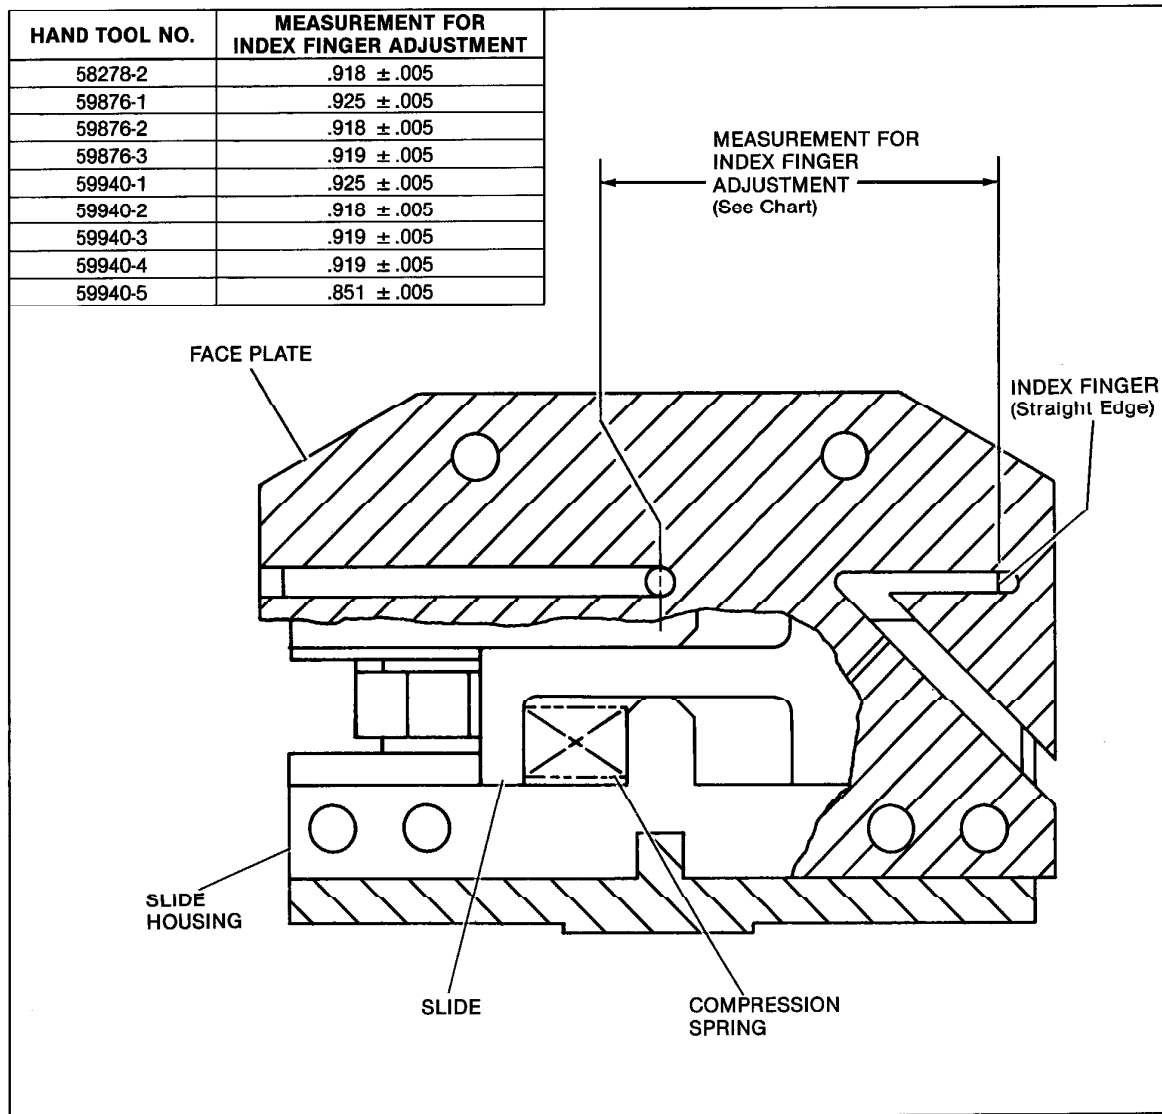

Fig. 5-1. Index Finger Adjustment
2. Use a caliper to measure the distance between the straight edge of the index finger and the pin in the face plate to determine if index finger is set properly (see Figure 5-1). Add half the diameter of the pin to the caliper measurement to determine this distance. The correct total measurements are listed in the chart in Figure 5-1.